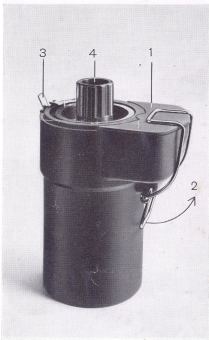
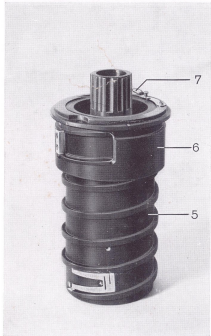

fig. 1
fig. 2
Take off cover (1) - fig. 1 - pulling out hook (2). Disengage spring (3) and extract internal cylinder pulling on grippin knob (4). The internal cylinder - fig. 2 - is made of two parts (5 and 6) screwed into each other. Lifting spring (7) the two parts are set
as in figure 1 and tighten with hook (2). Now the magazine finds itself a light tight compartment and we can proceed to transfer the film to the internal cylinder.